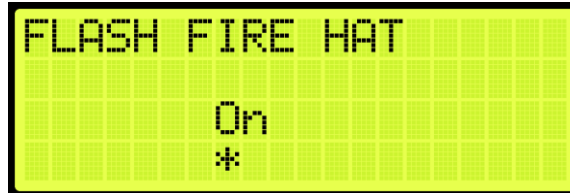

Figure 556: FLASH FIRE HAT Menu
5. From the FLASH FIRE HAT menu, scroll and select On (See Figure 556).